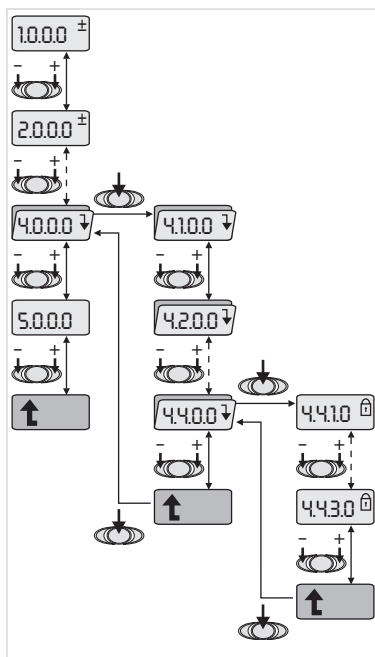

Fig. 32: Navigation example
- Carry out general menu navigation as follows (for an example, see Fig. 32):